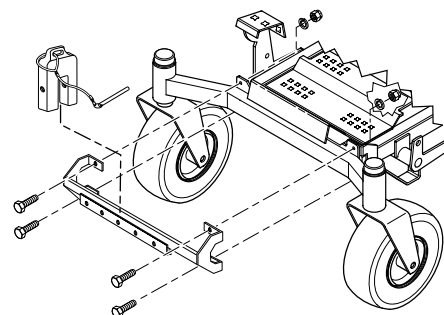

FIGURE 3-7
15. Using the weight support bar as a guide, identify the four corresponding mounting holes, and the existing hardware that will need to be removed in order to secure the weight support bar to the front of the machine as shown. See Figure 3-7.
16. Install one 7/16-14 x 1-3/4" hex head bolt into each of the four mounting holes in the weight support bar, and through the matching holes in the caster support weldment. Secure this assembly to the front of the machine using the 7/16-.5" x 1-1/4" x .083" flatwashers, and the 7/16-14 elastic stop nuts. Torque hardware to 59 ft. lbs. See Figure 3-7.